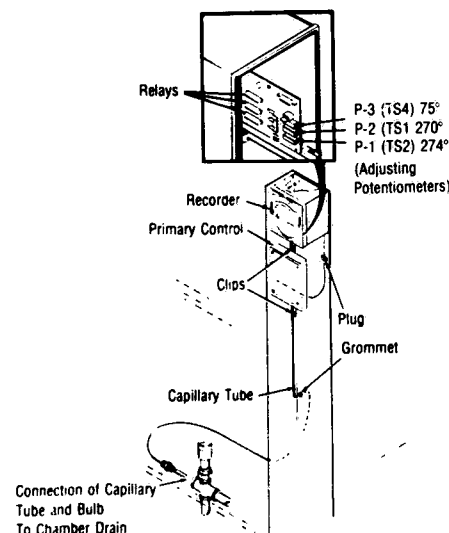

Figure 7-1. REPLACING THE RECORDER.
#### Adjustment of Temperature Control (Fig. 7-1)
5. Remove capillary from the three clips at (Fig. 7-1) rear of console.